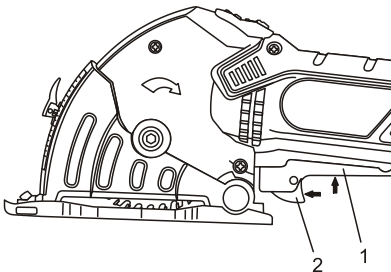

Fig. 6
7. Turn switch ON as outlined in Fig. 6 above.